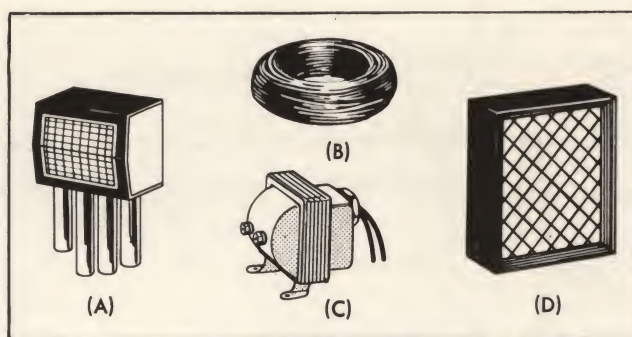

FIG. 77—WARDS DOOR SIGNAL EQUIPMENT
**POWER SOURCES.** Doorbells, buzzers and chimes are signal systems which operate on low voltage. Power is usually furnished through a low voltage transformer, similar to Fig. 77-C. The transformer is a device that reduces the regular 115 volt alternating current to lower voltage. Doorbells and buzzers usually require 10 volts, and chimes operate on 16 volts. Because of this low voltage, heavy wire is not required; No. 18 bell wire is most commonly used. (See Fig. 77-B)
Chimes are now generally used in place of the doorbell, because of their more attractive appearance and pleasing sound. The notes are not sounded until the pushbutton is released and pressed again. Figs. 77-A and 77-D show typical Wards musical chimes.